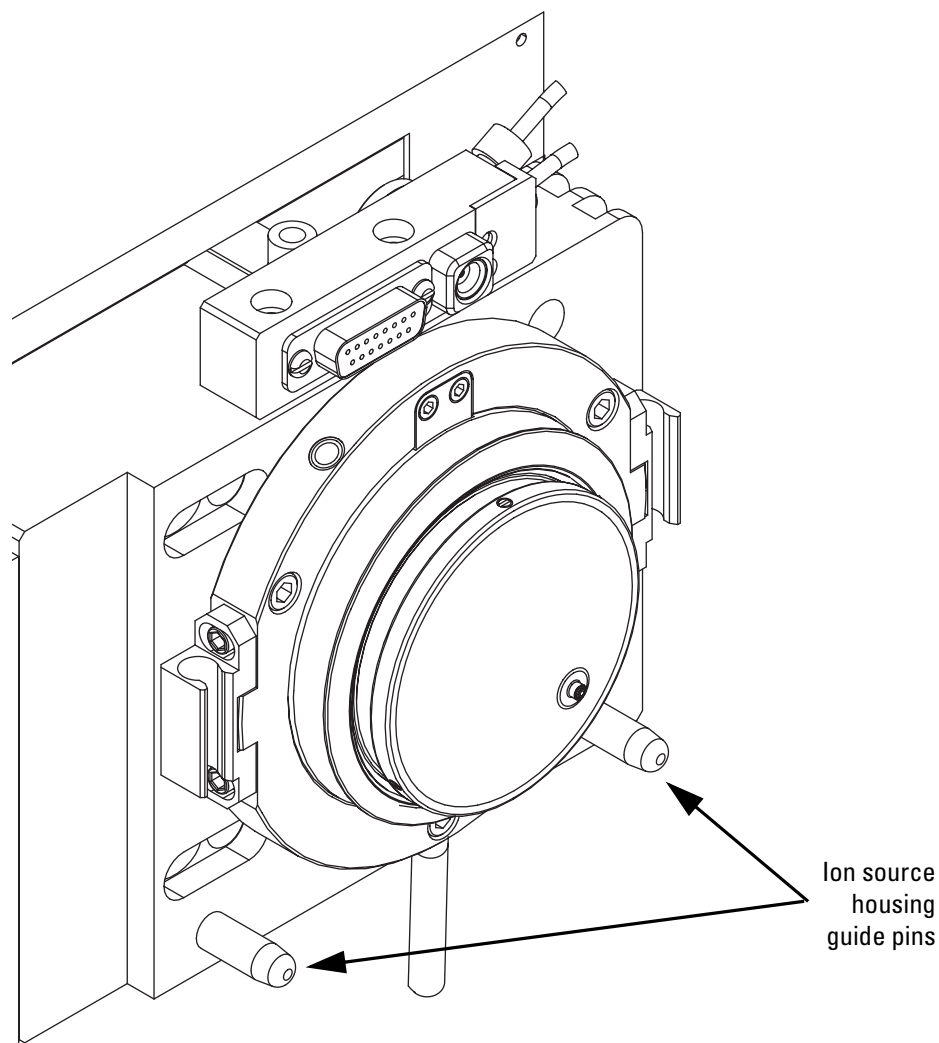

Figure 75. Ion source mount showing ion source housing guide pins
1. Carefully align the two guide pin holes on the rear of the ion source housing with the ion source housing guide pins on the mass spectrometer, and carefully press the ion source housing onto the ion source mount, as Figure 57 on page 83 and Figure 75 show.